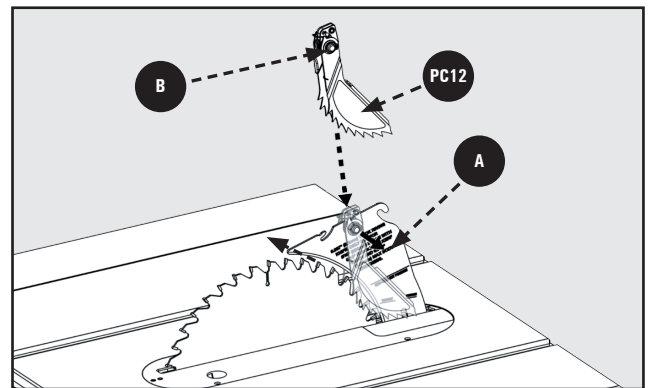

Figure 20
1. Refer to Figure 20 and locate the Anti-Kickback Pawls **PC12** mounting slot in the middle of the top edge of the Riving Knife **A**.